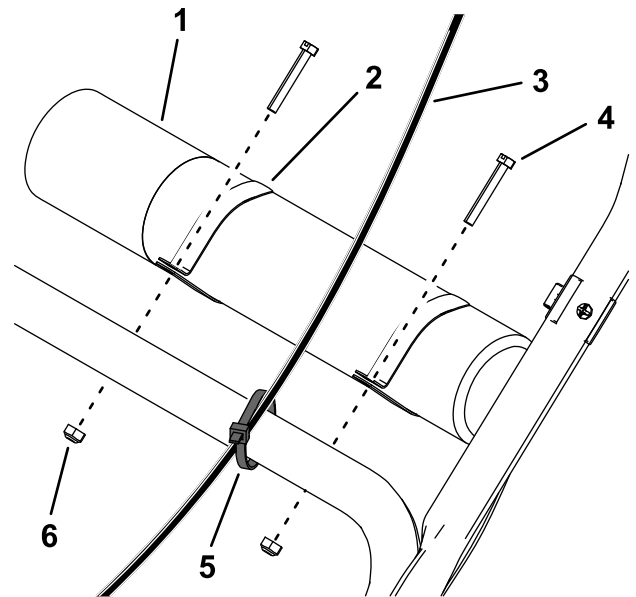

Figure 5
2. Secure the throttle cable over the lower handle using a cable tie (Figure 5).
3. Slide the clamps onto the Operator's Manual tube and install it on top of the lower handle using 2 slotted-head bolts and 2 locknuts (Figure 5).